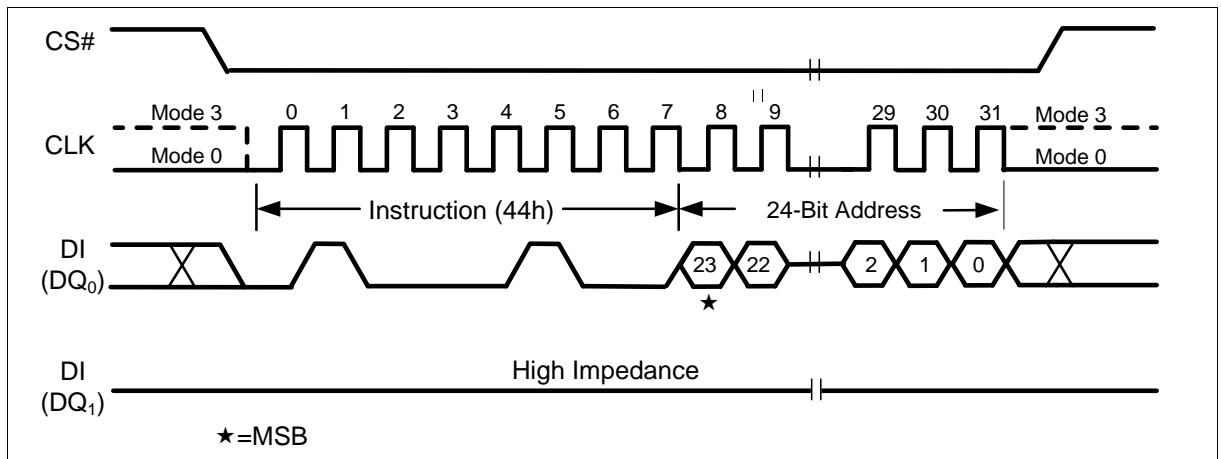

Figure 53 Erase Security Sector Instruction (SPI Mode only)
The Erase Security Sector instruction sequence is shown in Figure 53. The CS# pin must be driven high after the eighth bit of the last byte has been latched. If this is not done the instruction will not be executed. After CS# is driven high, the self-timed Erase Security Sector operation will commence for a time duration of  $t_{SE}$  (See “12.6AC Electrical Characteristics”). While the Erase Security Sector cycle is in progress, the Read Status Register instruction may still be accessed for checking the status of the WIP bit. The WIP bit is a 1 during the erase cycle and becomes a 0 when the cycle is finished and the device is ready to accept other instructions again. After the Erase Security Sector cycle has finished the Write Enable Latch (WEL) bit in the Status Register is cleared to 0. The Security Sector Lock Bit (LB) in the Status Register-2 can be used to OTP protect the Security Sectors. Once the LB bit is set to 1, the Security Sector will be permanently locked, Erase Security Sector instruction will be ignored.